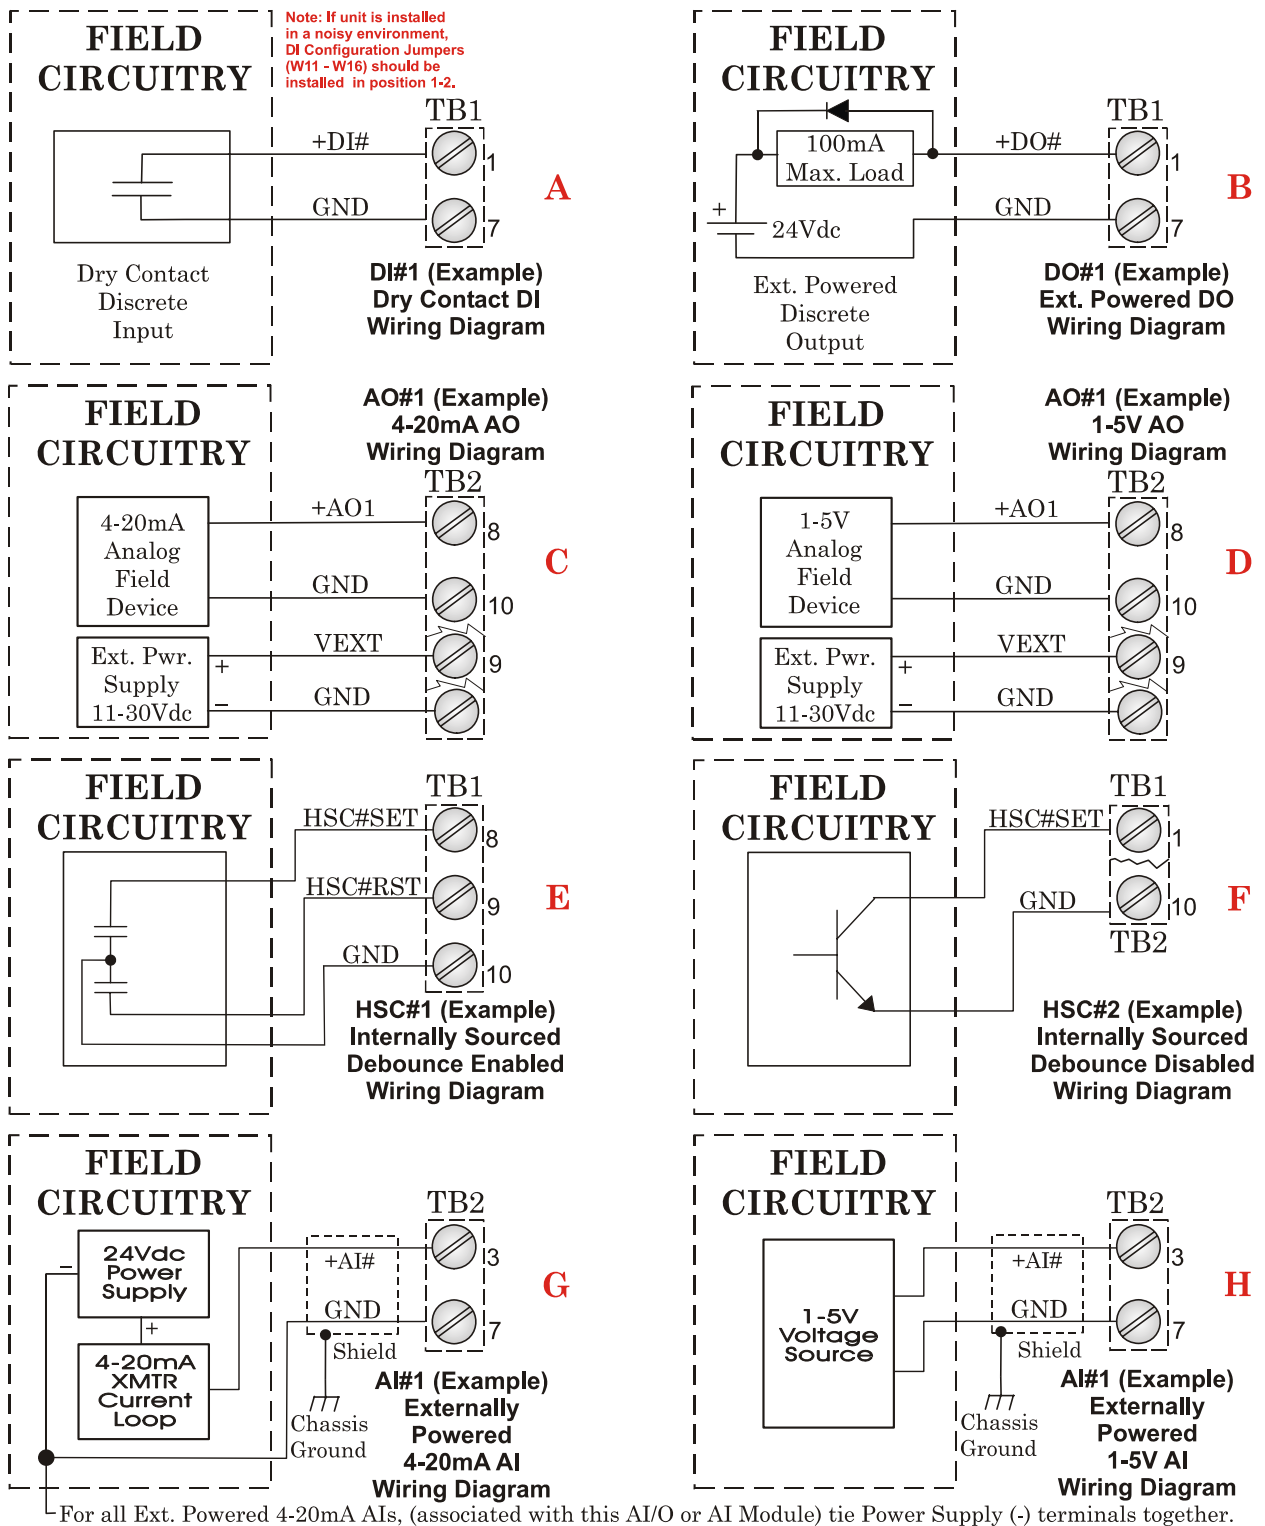

Figure 2-22 - Mixed I/O Module Wiring Diagram
2.3.4.7 Non-isolated Mixed I/O Module (see Figures 2-22 & 2-23)